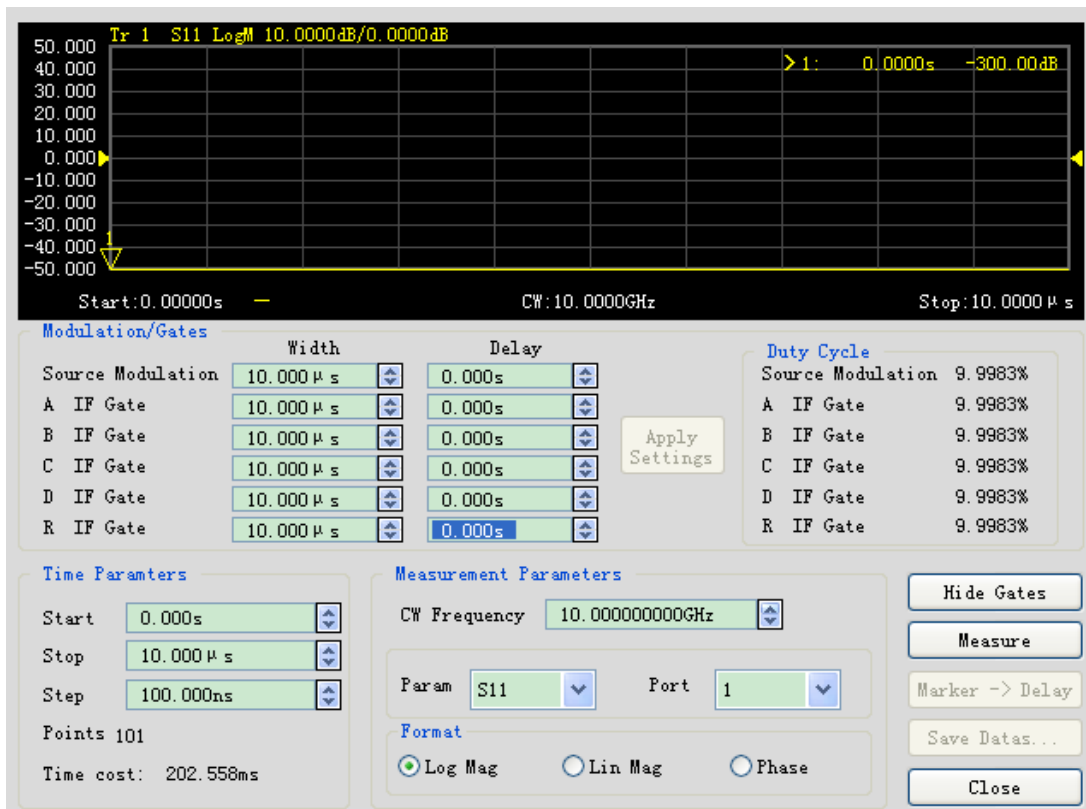

Fig. 4.4 Display Gate Setting
e) **Display gate setup:** if this button is clicked, the dialog box shown in Fig. 5.4 will appear. You can set the source modulation and gate. After setting, click [Apply gate] and [Hide gate]. Then the dialog box shown in Fig. 4.4 will appear again.